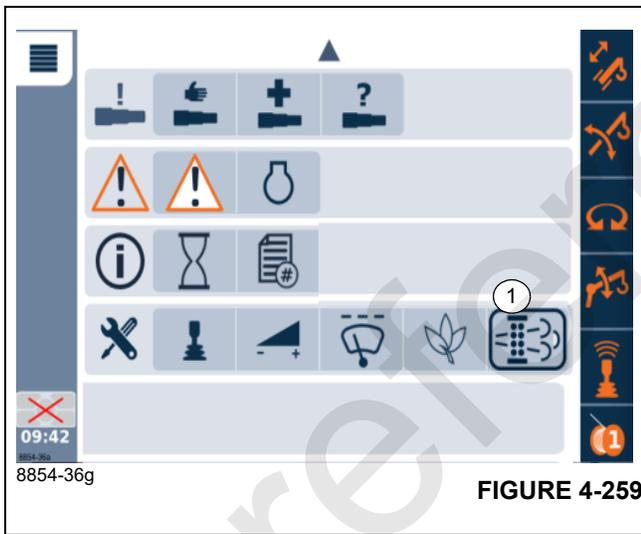

FIGURE 4-259
Select the Exhaust System Cleaning Icon (1), (Figure 4-259), under the User Settings Menu Group, to show the Exhaust System Cleaning function screen.